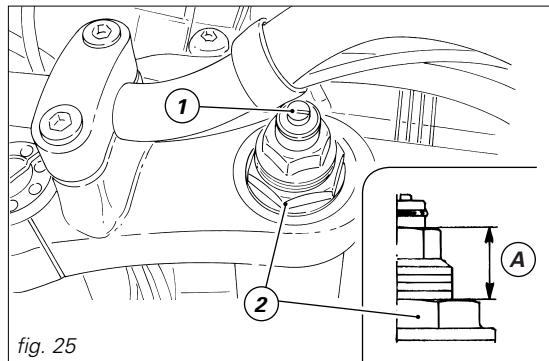

fig. 25
1) (fig. 25) to adjust rebound damping;
2) (fig. 25) to adjust spring preload;